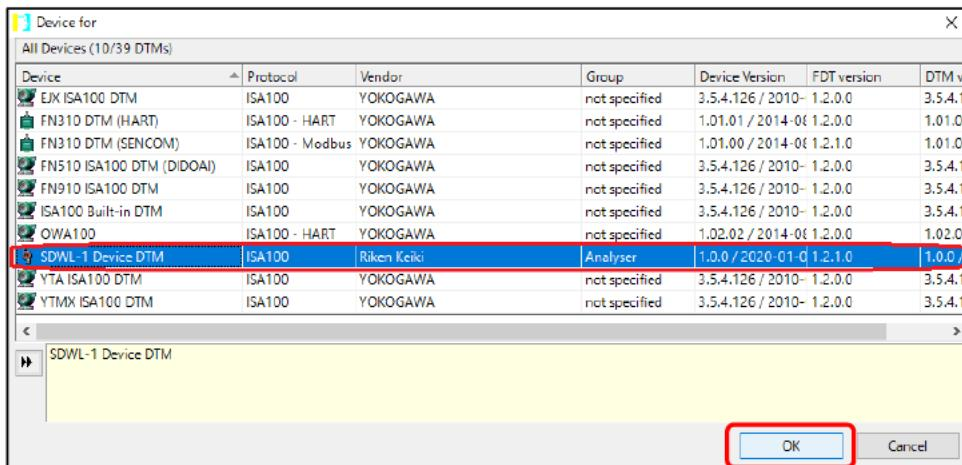

Figure 5-28 Selecting SDWL-1 DTM
- ⑦ Select “SDWL-1 Device DTM” (DTM for the SDWL-1) from the device list. (Figure 5-28)